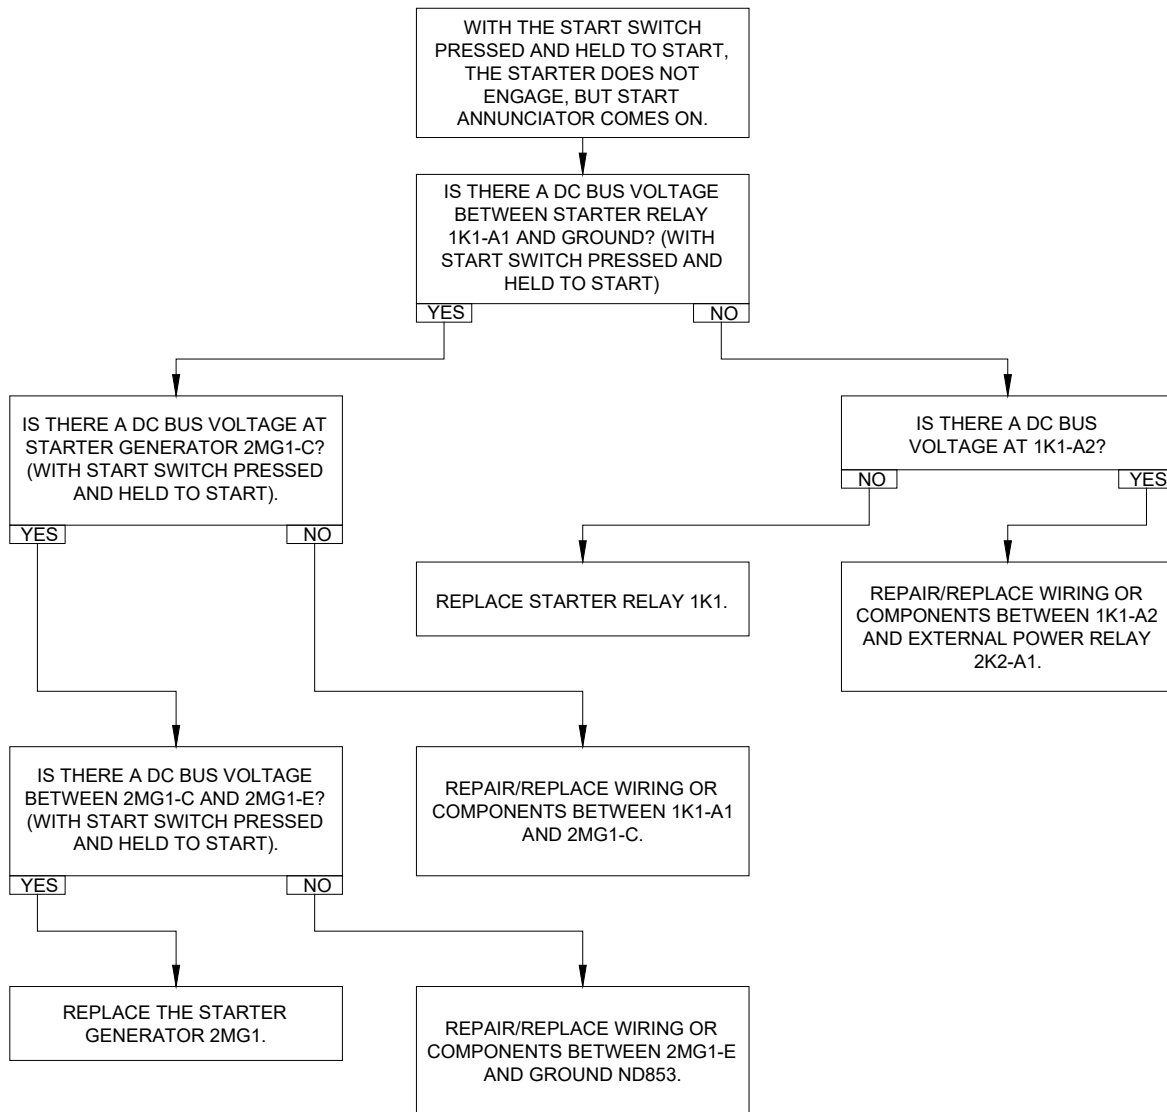

Figure 96-26: Start and Ignition System - Trouble No. 1
- If the starter is not engaged, but the START annunciator comes on, refer to Trouble No. 1 (Figure 96-26).